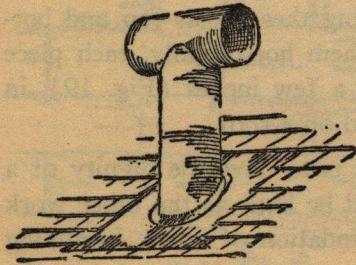

FIG. 22.
**SMOKE PIPE.**—If you intend to have a sheet-iron pipe for a smoke-stack, let it go out through the roof so as not to make an extra elbow. At the shingle line place a tin or galvanized iron tube the same size as the smoke pipe and fitting into it at the first joint. Let this tube have a flange to fit the pitch of the roof. The upper edge of the flange must be pushed under a course of shingles and then nailed to the roof (Fig. 22).